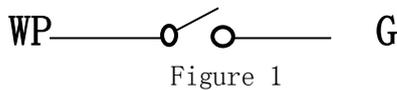
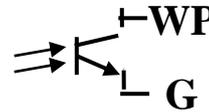

Figure 1
Figure 2
1)WP input terminal can use water switch or fan switch's test terminal, Please pay attention that WP is through optocoupler connected with ground (G) as (figure2) , not as (figure 1).